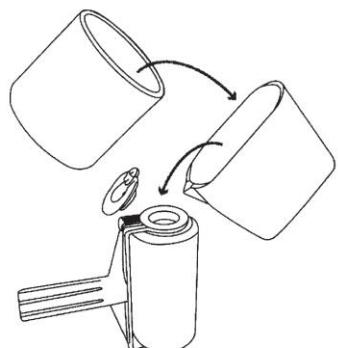

Fig. 1
3. Pour up to 900 ml of paint into the Paint roller using the Easy Pour Jug (Fig. 1).